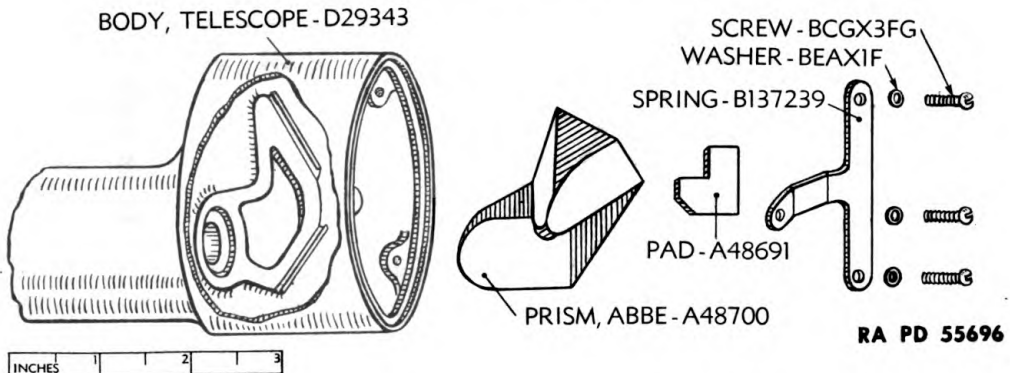

Figure 43—Abbe Prisms and Seat Assembly—Exploded View
(1) When assembling the separate gears, be sure to match gear teeth according to the scribed markings on the teeth so the filter seen through the eyepiece will be correctly indicated by the filter selector knob on filter plate A49879.
(2) Before assembling the ray filter assembly in the telescope, clean away all the old sealing compound in the joint. Apply new cement, sealing or plugging, being careful not to use an excessive amount, as the cement is likely to be worked into the telescope body when engaging the two parts. Keep the sealing cement below the inner edge of the telescope body joint to prevent this.
a. Disassembly. Remove the three fillister-head screws BCGX3FG and washers from the retaining spring B137239 (fig. 43). Remove the retaining spring and pad A48691. Remove the prism assembly carefully from its seat. Wrap the prism in clean PAPER, lens, tissue, and store in a safe place until assembly.